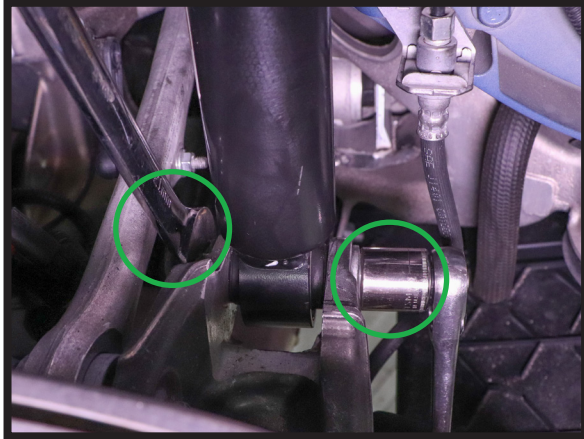

FIGURE 6
4. REMOVE THE BOTTOM MOUNT BOLT AND NUT. (FIGURE 6, 7)